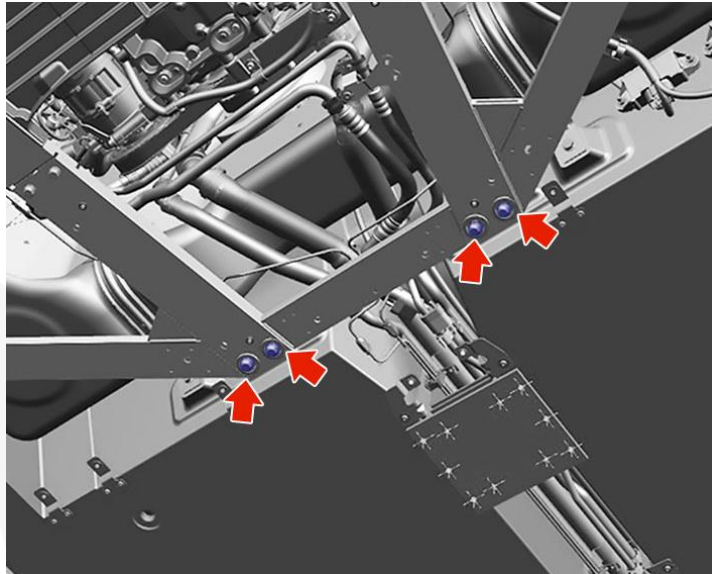

Figure 1
3. Identify the 4 (four) screws indicated in **Figure 1**.
5. Repeat the same procedure for the 3 remaining screws indicated in **Figure 1**.